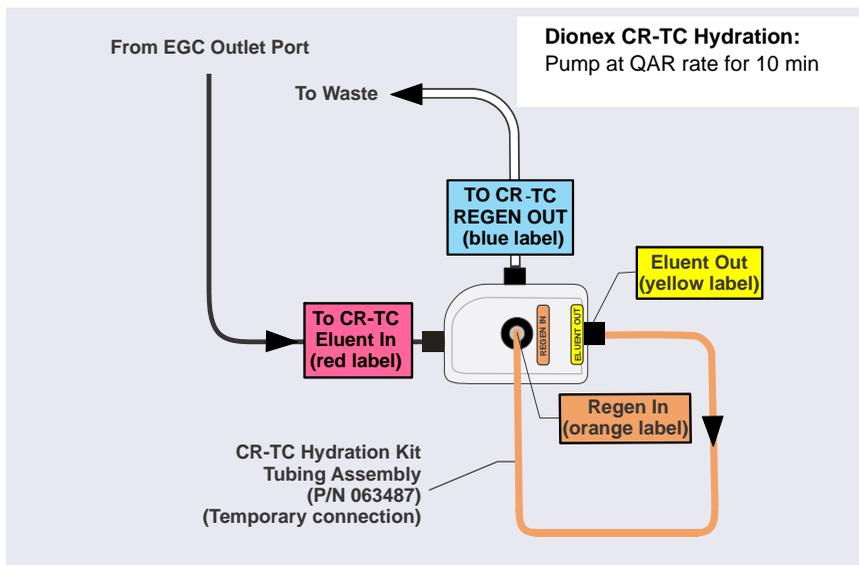

Figure 4-29. Dionex CR-TC Plumbing for Hydration: Analytical Flow Version
3. Connect the hydration tubing as shown in Figure 4-29.